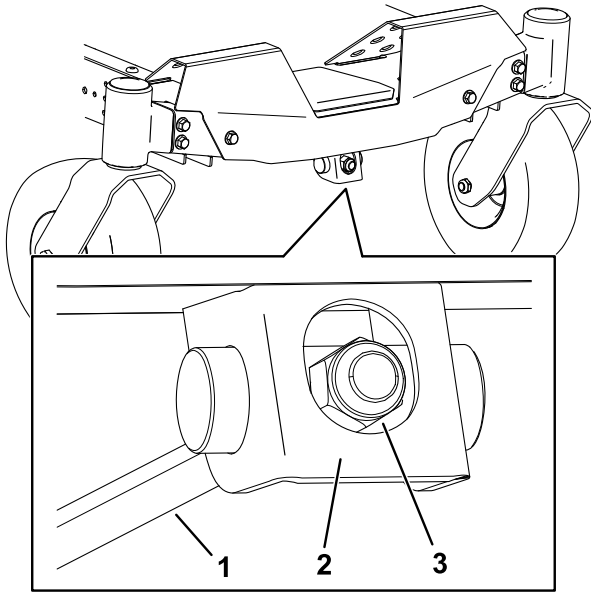

Figure 64
1. Rotate the adjustment nut in the front of the mower (Figure 64).